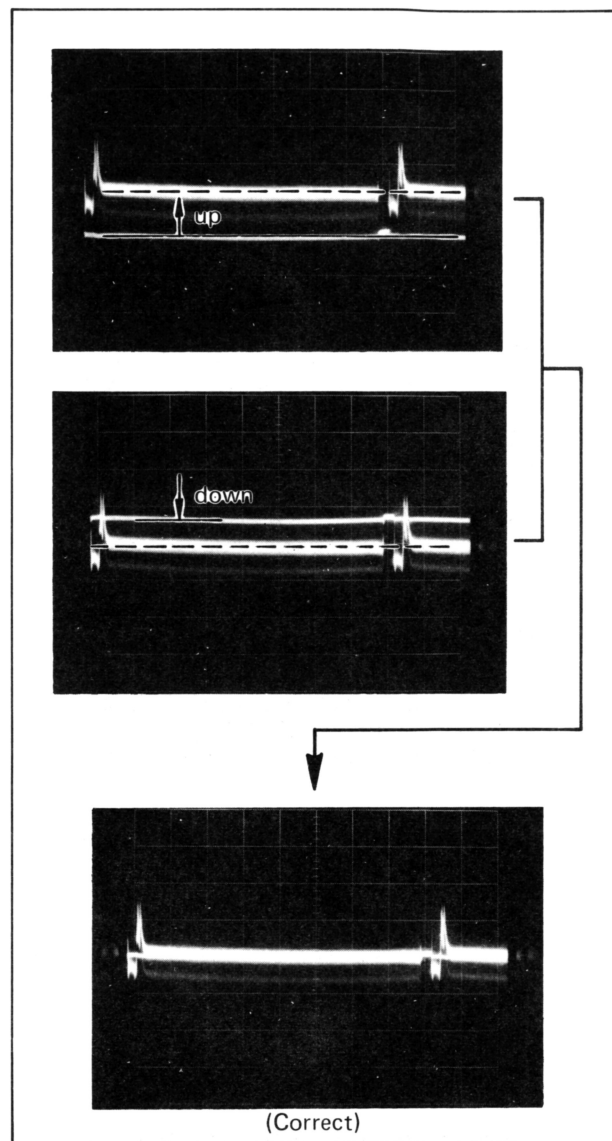

Fig. 4-14
2. Adjust R21 (P. SET) to center the waveform as shown in Fig. 4-14.